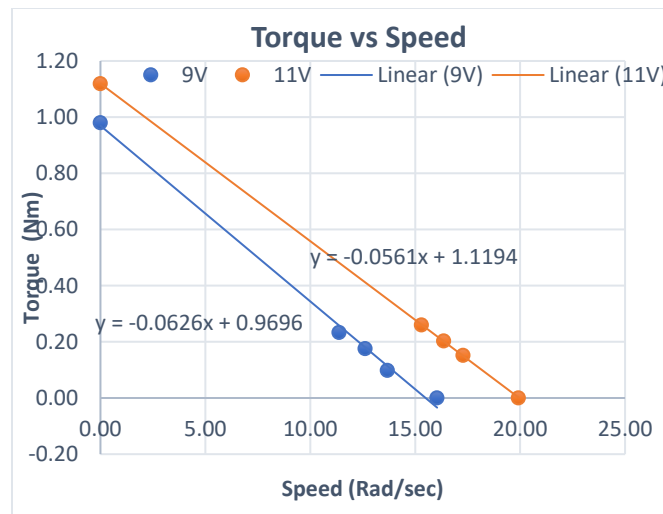

Figure 12. Motor Torque vs. Speed Graph
- e. Finally, you need to design a gear train to coordinate the motion of your legs, which means you need to know the motor angular velocity. The motor used in this project is the same motor that you used in lab. The plot of motor velocity versus torque is reproduced below (Figure 12). As you learned in the lab, the motor velocity depends on the torque on the motor. To fully solve this problem, we need to do force analysis on the leg mechanism, which will be part of future assignments. For now, assume that the torque will cause the angular velocity of the motor to move at $\frac{1}{4}$ the no-load velocity. The actual speed might be better or worse depending on details of leg design, weight, etc., but this is a good starting point which can be refined on later. Find the minimum gear ratio that will allow your design to exceed the minimum required angular velocity of the leg.